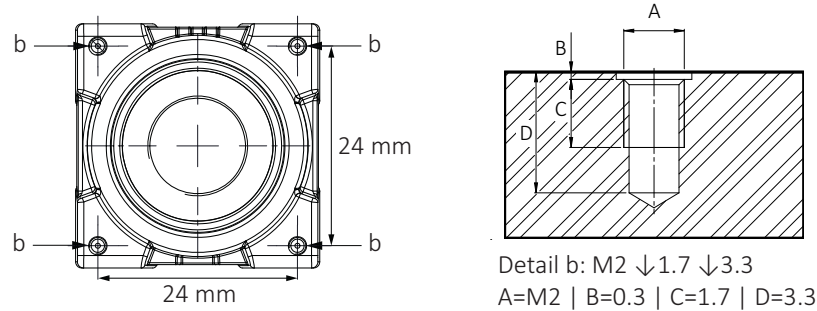

Figure 44: Camera front with mounting threads (c)
1. Mount the camera to the base using suitable M2 screws at 0.17 Nm maximum torque for a thread engagement (C) of 1.7 mm between screws and mounting threads, see Figure 44. For technical drawings, see Dimensions and mass on page 97.